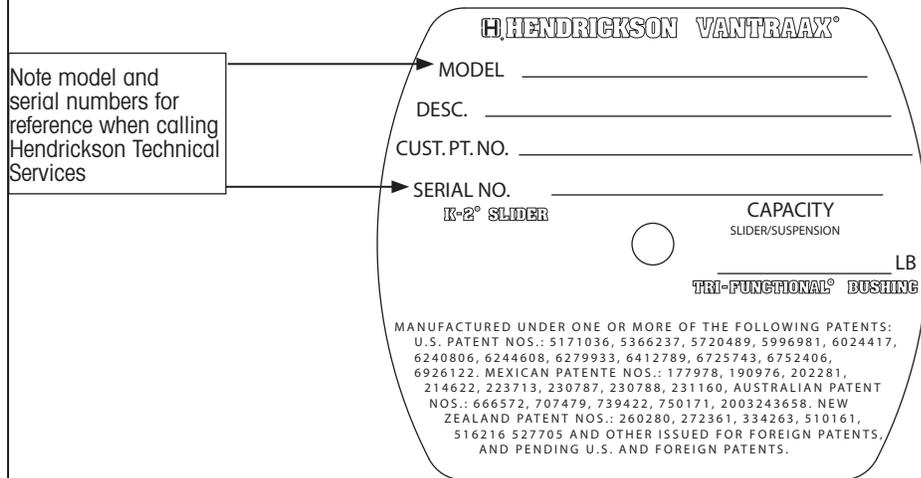

Figure 2: Sample Identification Tag (VANTRAAQX® tag shown)
STEP 4. Identify the model and serial number of the suspension. Find the identification tag (see Figure 2) on the suspension by referencing the chart below. Note the model and serial number on the tag. If no tag is found, contact Hendrickson Technical Service to determine what suspension model is on the trailer.